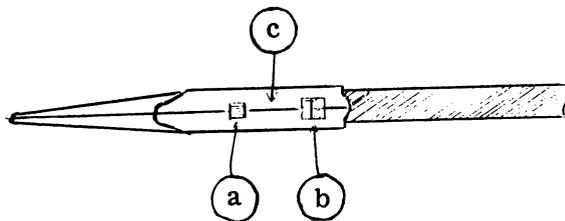

Figure 3-28
(1) As seen in the inspection window (a, Figure 3-28) nearer to the tip of the taper pin, bare wire must be flush with or extend past the wire crimp. Insulation (b, Figure 3-28), as seen in the other inspection window, must be flush with or extend past the insulation crimp.
(2) Be sure to use the right tool on the taper pin. (See Hand Tool Book Tables.)
(3) The tightest crimp on the taper pin will be on the wire strands. (c, Figure 3-28.)